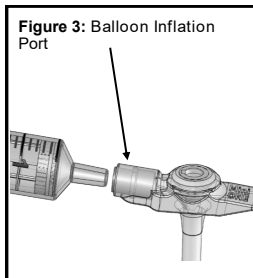

Figure 3: Balloon Inflation Port
2. Prior to placing the MiniACE® Button, inflate balloon through the balloon inflation port (see Fig 3) using a Luer slip syringe with distilled water or sterile water to the recommended fill volume. The recommended fill-volume can be found on Table 1 or printed above the balloon inflation port of the device. Remove the syringe and verify balloon integrity by gently squeezing the balloon to check for leaks. Visually inspect the balloon to verify symmetry. Verify that sizing information is appropriate for measured length. Reinsert the syringe and deflate all of the water from the balloon after inspection.
1. Deflate the balloon by attaching the Luer slip tip syringe into the balloon inflation port (Fig. 3) to withdraw the sterile or distilled water.